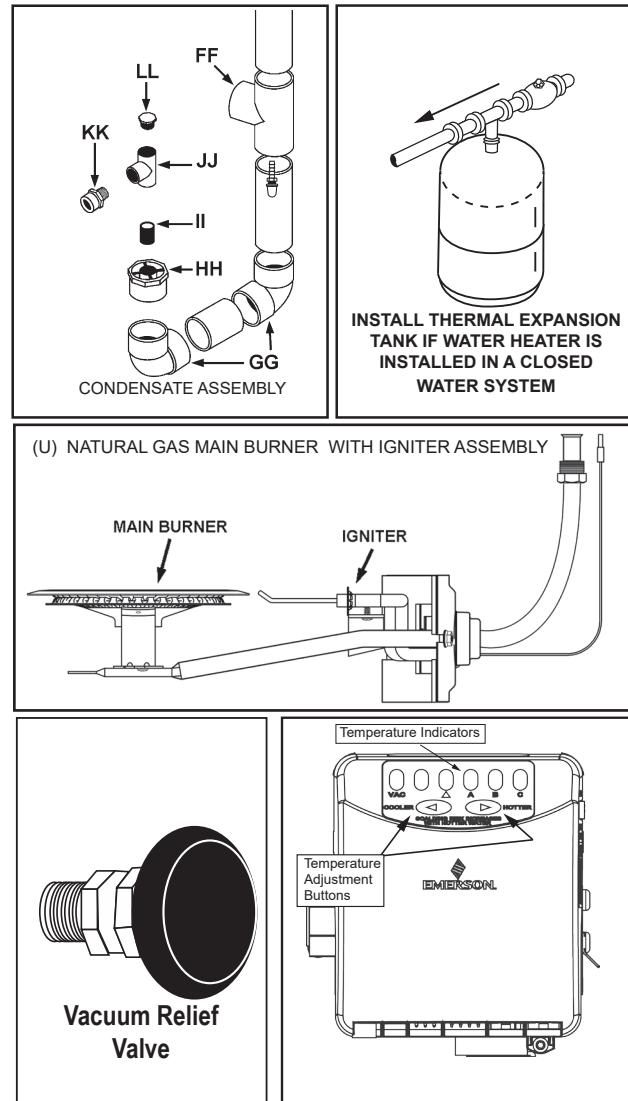
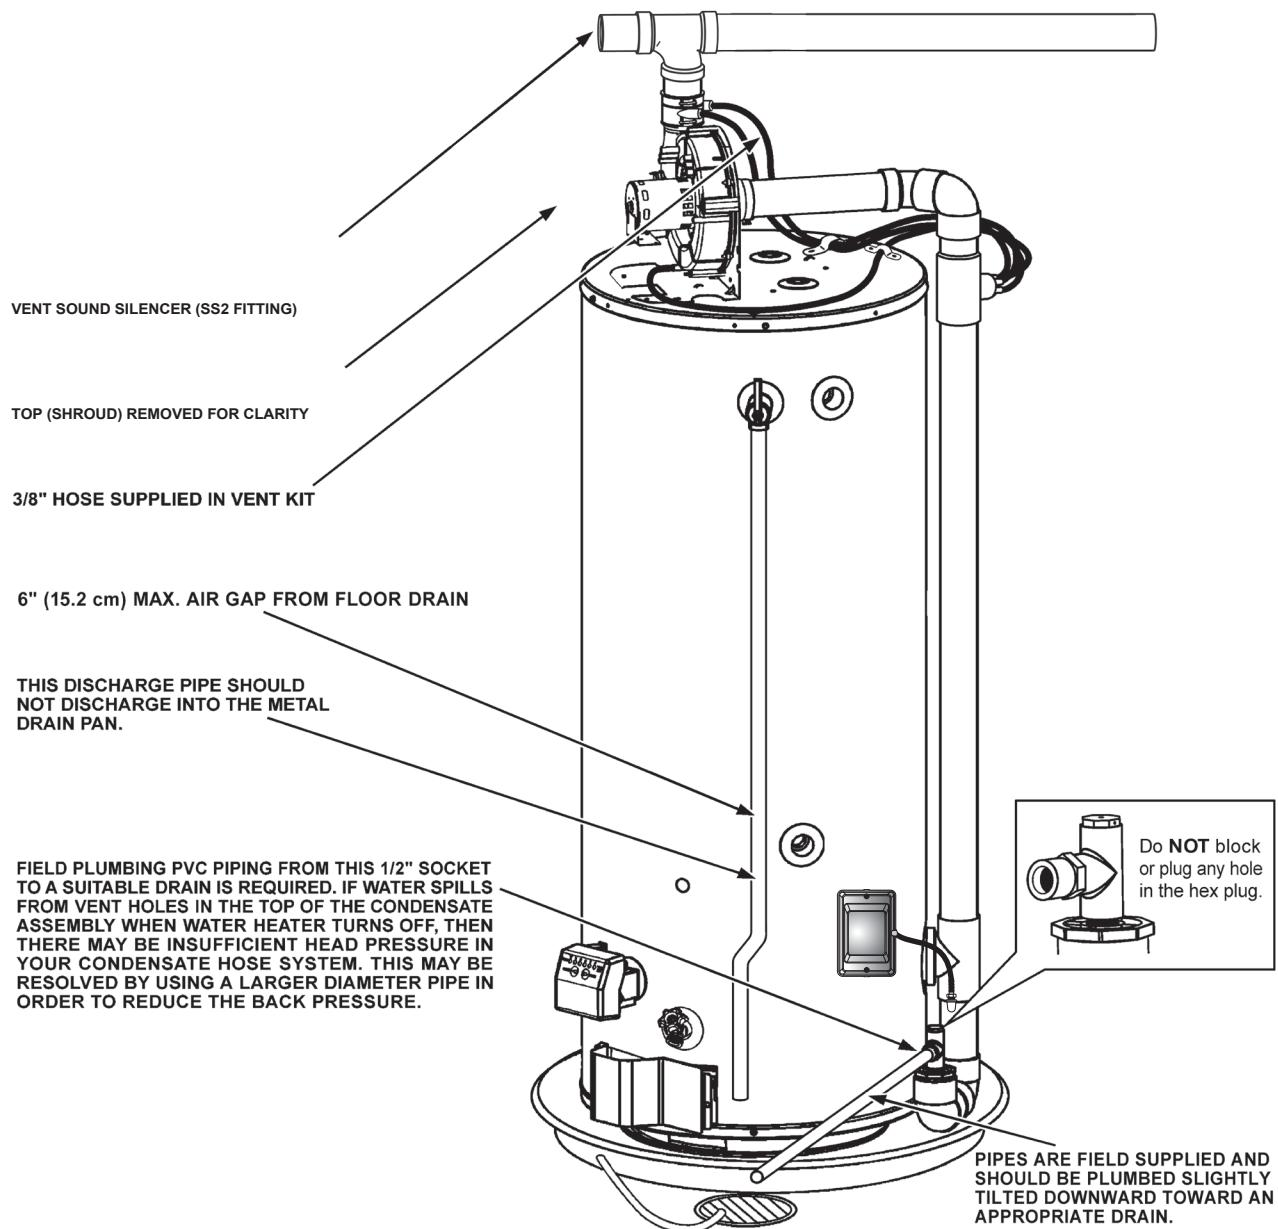

Figure 1. Features and Components - Right Side
Figure 2. Features and Components - Left Side
5. Carefully plan the place where you are going to put the water heater. Correct combustion, vent action, and vent pipe installation are very important in preventing death from possible carbon monoxide poisoning and fires, see *Figure 1* (page 7) and *Figure 2* (page 8).
Installation of the water heater must be accomplished in such a manner that if the tank or any connections should leak, the flow will not cause damage to the structure. For this reason, it is not advisable to install the water heater in an attic or upper floor. When such locations cannot be avoided, a metal drain pan should be installed under the water heater. Drain pans are available at your local hardware store. Such a drain pan must have a clearance of at least 1.0" (2.5cm) greater than any point on the water heater's outer jacket and must be piped to an adequate drain. The pan must not restrict combustion air flow. For example, if a circular pan is used, it must be a minimum of 27" (69cm) in diameter. See *Figure 1* (page 7).